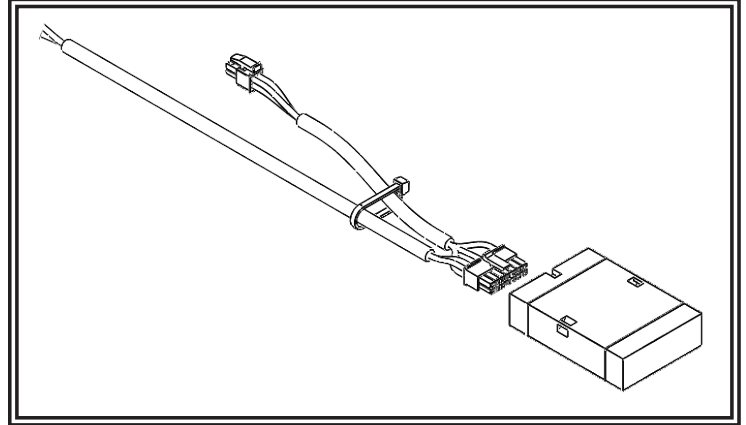

Figure 7
Step 1. Route the remaining, unused OBDII Harness connectors to the location where the OBDII Device will be mounted. The OBDII Device must be mounted near another Matrix® compatible device with a 4 Pin AUX connector. Confirm that the cable length is sufficient to reach both required locations. See FIGURE 7 for further details.